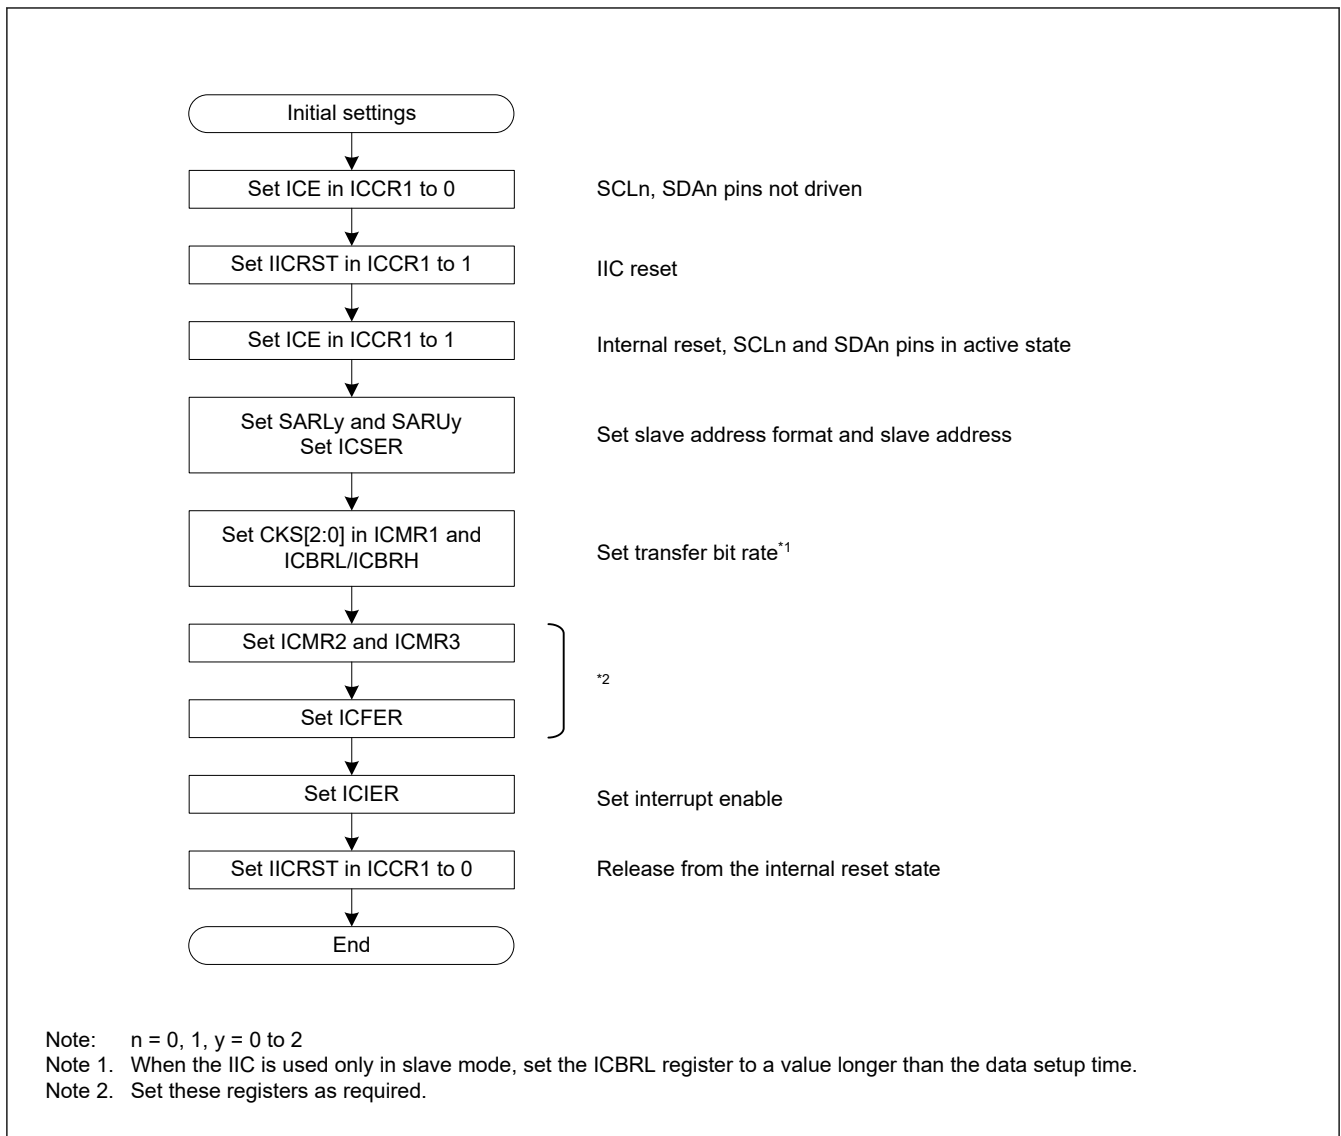

Figure 39.5 Example IIC initialization flow
Before starting data transmission or reception, initialize the IIC using the procedure shown in Figure 39.5.
4. Set the SARLy, SARUy, ICSEr, ICMR1, ICBRH, and ICBRL registers (y = 0 to 2), and set the other registers as required. For initial settings of the IIC, see Figure 39.5.